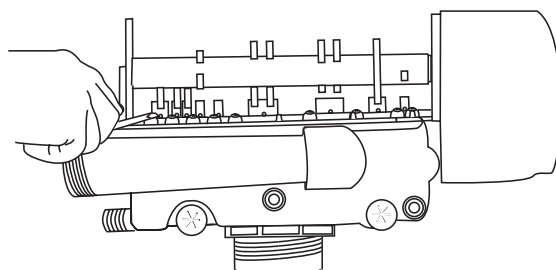

Figure 5.4
4. Relieve system pressure by opening the Backwash Drain Valve (the seventh valve back from the control) with a screwdriver, Figure 5.4.